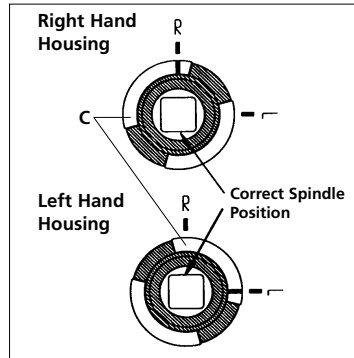

Figure 9
- 6) Set the latch hub drive (C) on the inside housing to the proper position for the handing of the lock. Make sure the position of the spindle is as shown (see Figure 9).